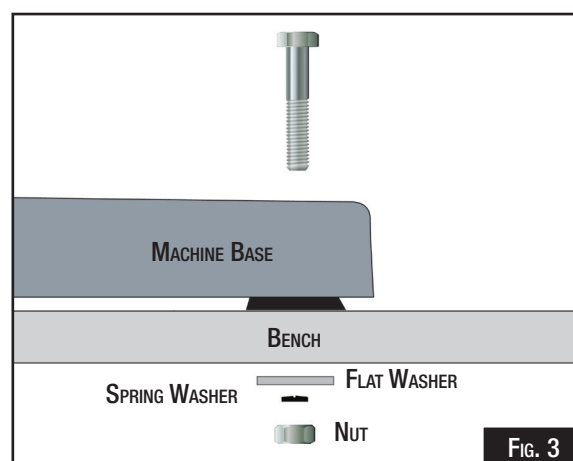

FIG. 3
- Each corner must be secured to the workbench using nuts and bolts long enough to go through the workbench (not supplied). (Fig. 3)